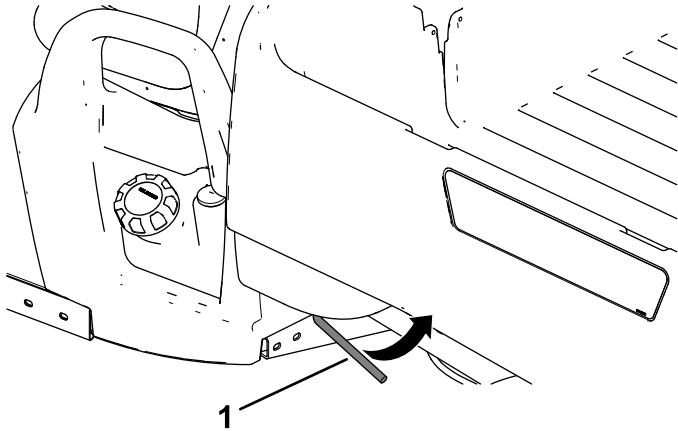

Figure 1
1. Lift the latch lever that is at the either side near the forward corner of the cargo bed, and fully raise the bed up (Figure 1).
9. Lift the latch lever of the cargo bed (Figure 1).